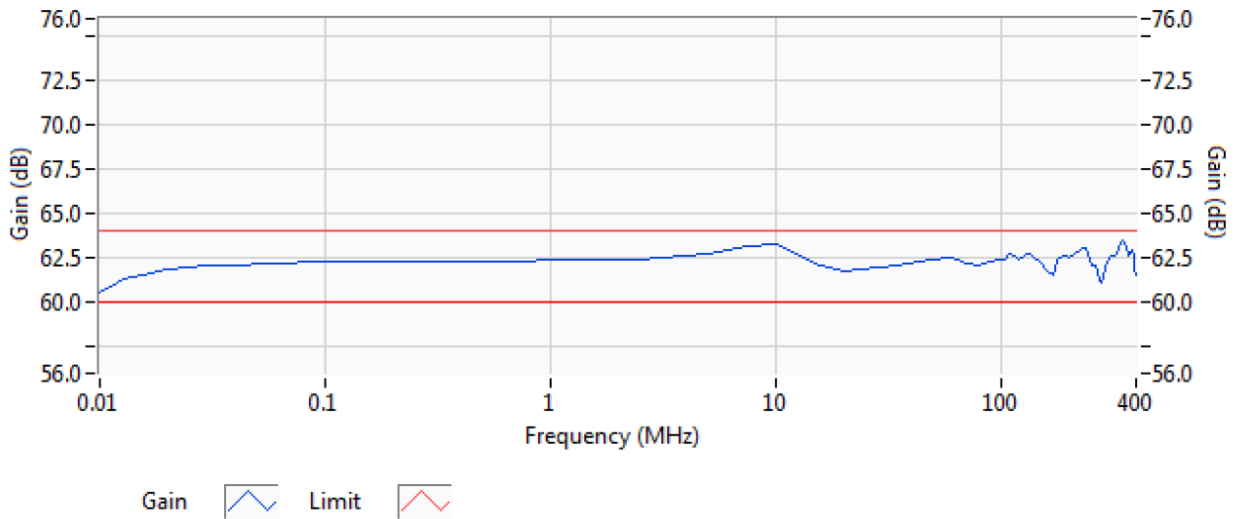
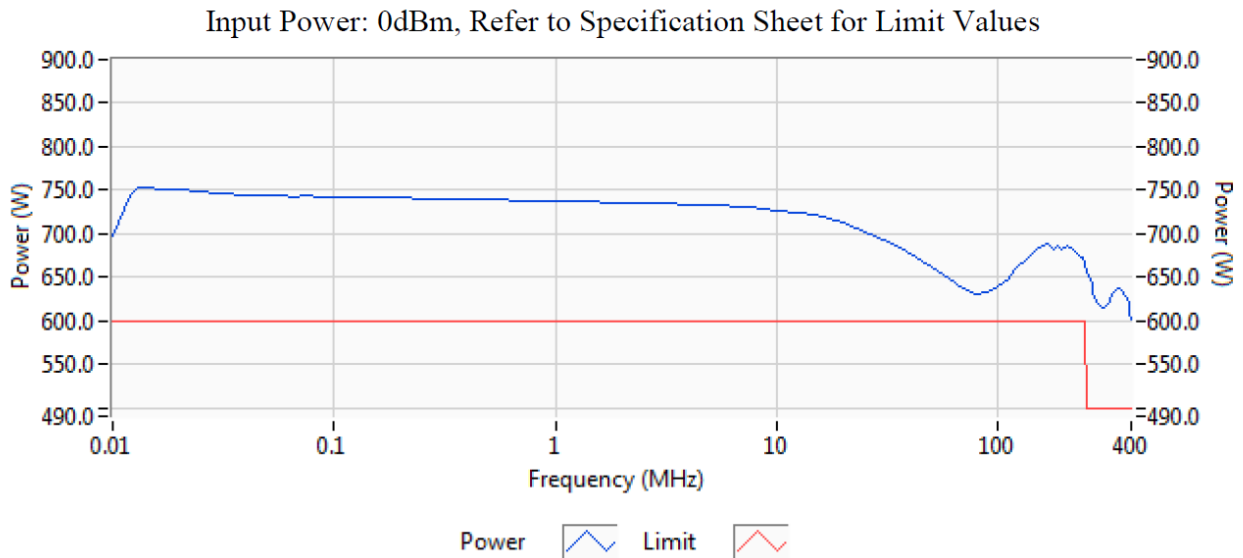

Figure 4-1. Typical Response at -20dBm Input
Figure 4-2. Typical Response at 0 dBm Input
1. The Model 600A400's typical gain response at -20 dBm input and 0 dBm input is shown in Figure 4-1 and Figure 4-2. The actual gain may vary considerably from that shown in Figure 4-1 but should be ≥ 57.8 dBm at 0dBm input.